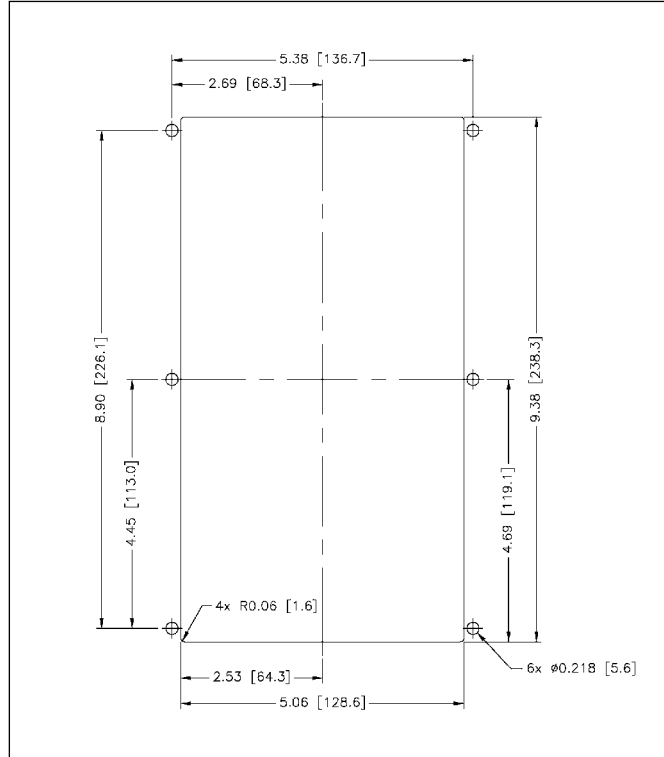

Figure 16. RDP cutout and mounting
1. Install the RDP using cutout and mounting dimensions provided in Figure 16.